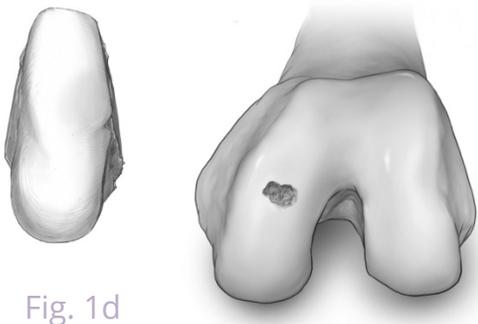

Fig. 1d
**Step 4:** Set up the vise on a sterile workstation. After rinsing the allograft, bring the allograft close to the patient's condyle to compare and determine the defect location and the site of allograft harvest (Fig. 1d). Secure the allograft in the vise in the same orientation of the patient's exposed condyle.